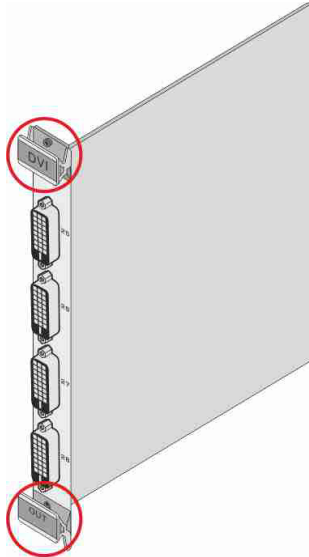

Figure 12: Card Handles
5. Holding the card by the upper and lower handle, align the card with the plastic guide rails (see Figure 12).